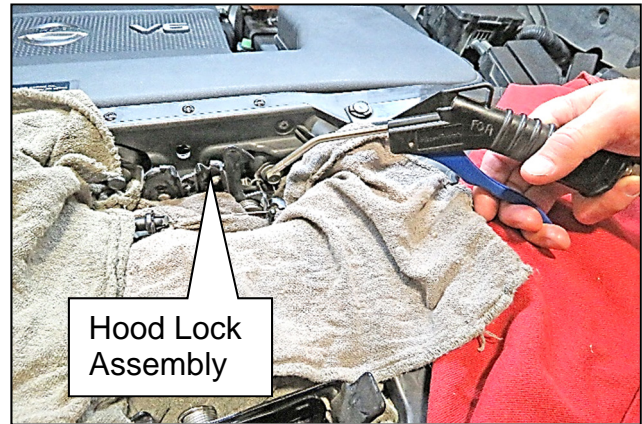

Figure 10
13. Use shop air to blow-dry the Hood Lock Assembly (Figure 10).